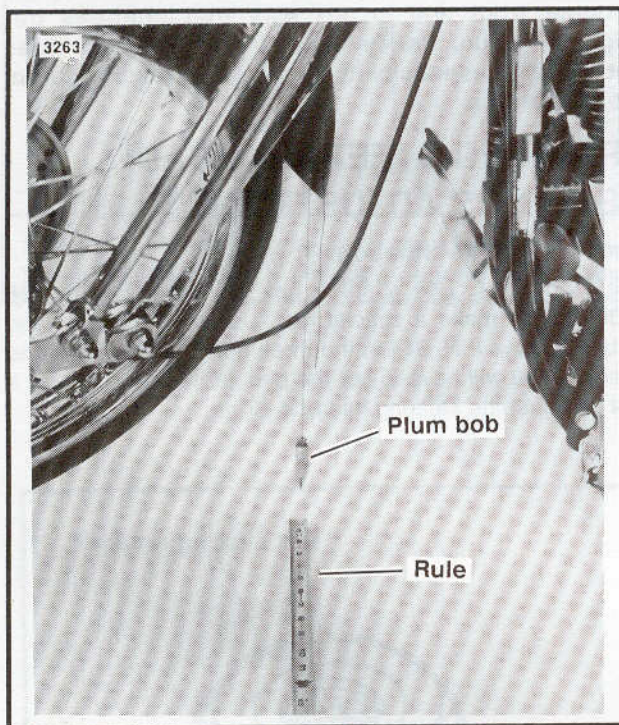

Figure 2-2. Adjusting "Fall-away"
5. See Figure 2-2. Hang a plumb bob from the hole in the rear of the fender. Lay a rule on the floor directly under the plumb bob, with the point of the plumb bob at zero.